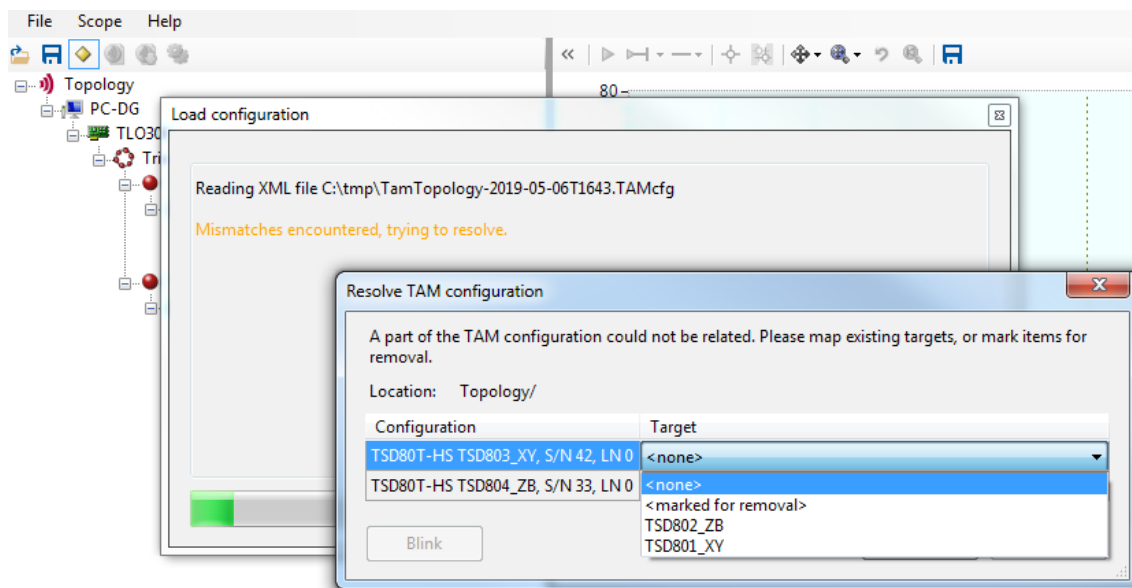

Figure 22: Resolve configuration mismatch.
- If at this point there are still devices which are not assigned, the **Resolve TAM configuration** dialog is opened (Figure 22).